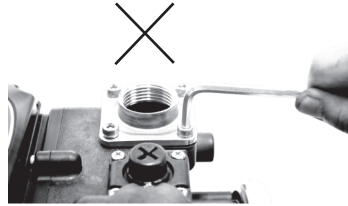

Fig. 1
1. The inlet and outlet flanges are tightened to the pump casing before shipment. For new pump installation, please do not remove the flanges. ( See Fig 1 ) Because of the use of self tapping screws, please use extra care when you have to remove the flanges for future maintenance.